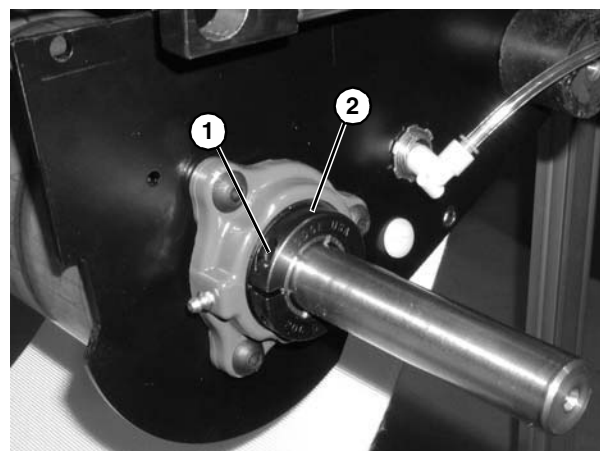

Figure 79
6. Loosen clamp screw (**Figure 79, item 1**) and remove bearing collar (**Figure 79, item 2**).